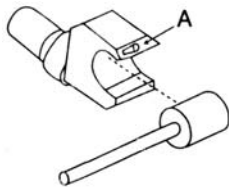

Fig3-1
1. the replacement of guide pipe (as Fig3-1)